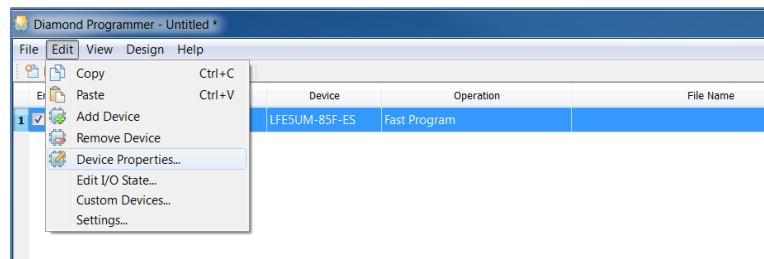

Figure 6.5. Access Device Properties through Edit
- Verify that the desired **Operation** is specified, and update if necessary. To update the operation, select the device row so that it is highlighted in blue as shown in Figure 6.5. On the menu bar, click **Edit**, and on the dropdown menu click **Device Properties** as shown in Figure 6.5.